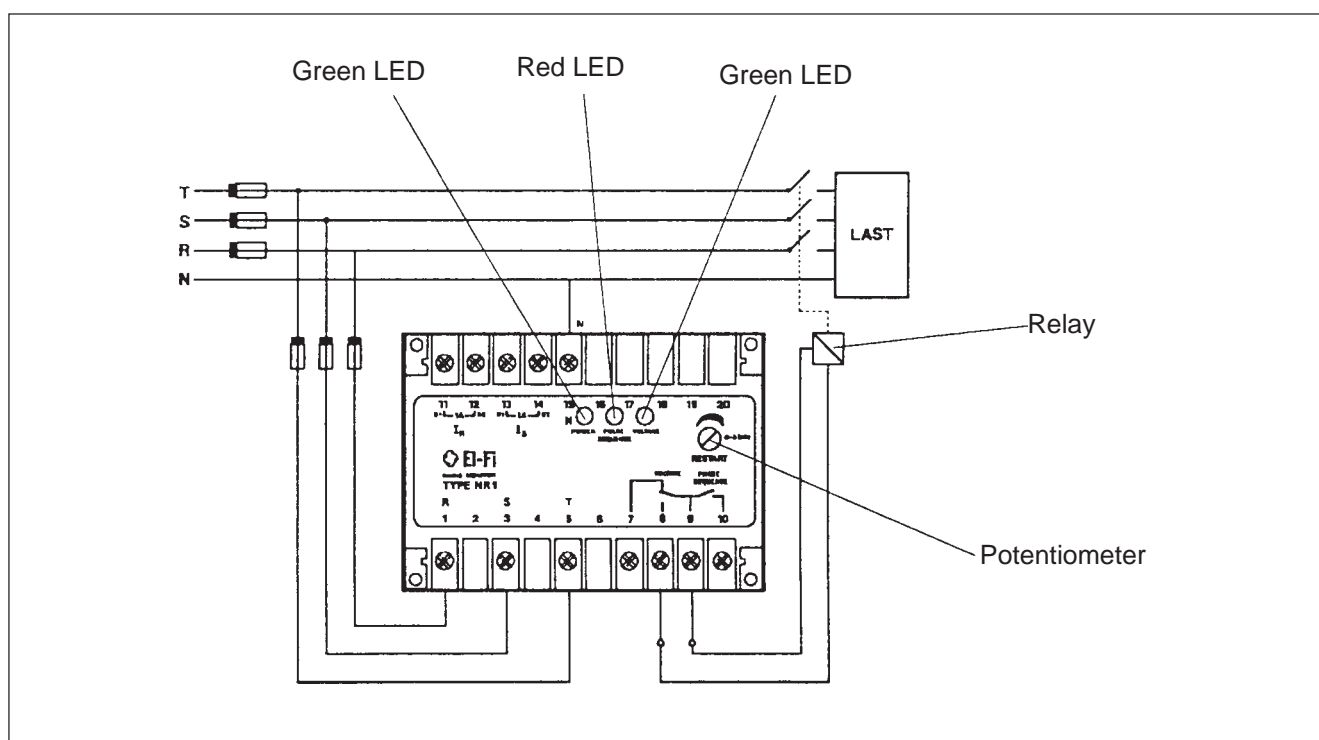

Fig. 1 Application wiring diagram
There are a number of connections on the cutout, as well as three LEDs and a potentiometer. Connections 1, 3 and 5 are a combined input for voltage measurement and cutout feed, (see Fig. 1). Connections 11, 12, 13 and 14 are current inputs for connecting two measuring transformers. Connection 15 is for connection to a zero conductor (Note: not an earth connection). Connections 7, 8 and 9 are relay outputs for the internal network error relay in the cutout. Connections 9 and 10 are relay outputs for the internal phase sequence relay in the cutout.
- Check that the cutout is connected as in fig. 1.